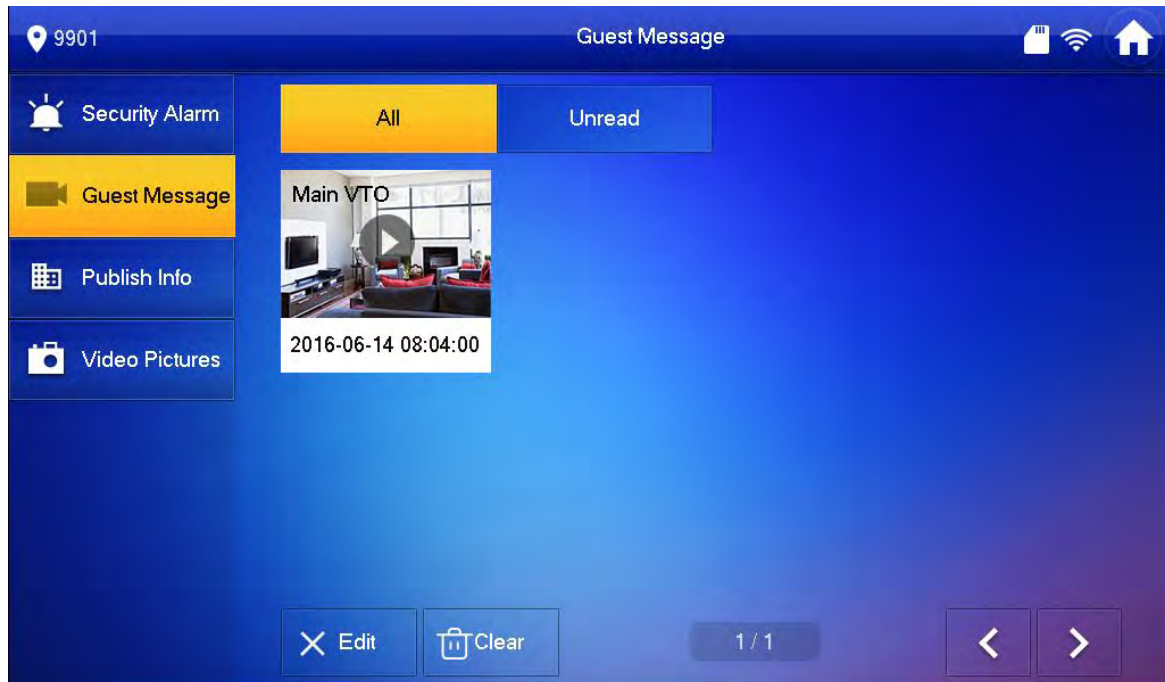

Figure 5-22
Step 1. Go to Info>Guest Message. See Figure 5-22.